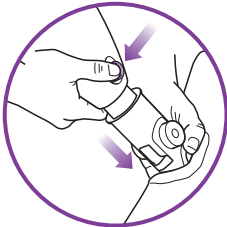

fig. 4
- 4 Snap the mop head into the mop body by lining up the groove on the back of the mop body with the groove on the back of the mop head. Push until you hear it latch into place. **(fig. 4)**